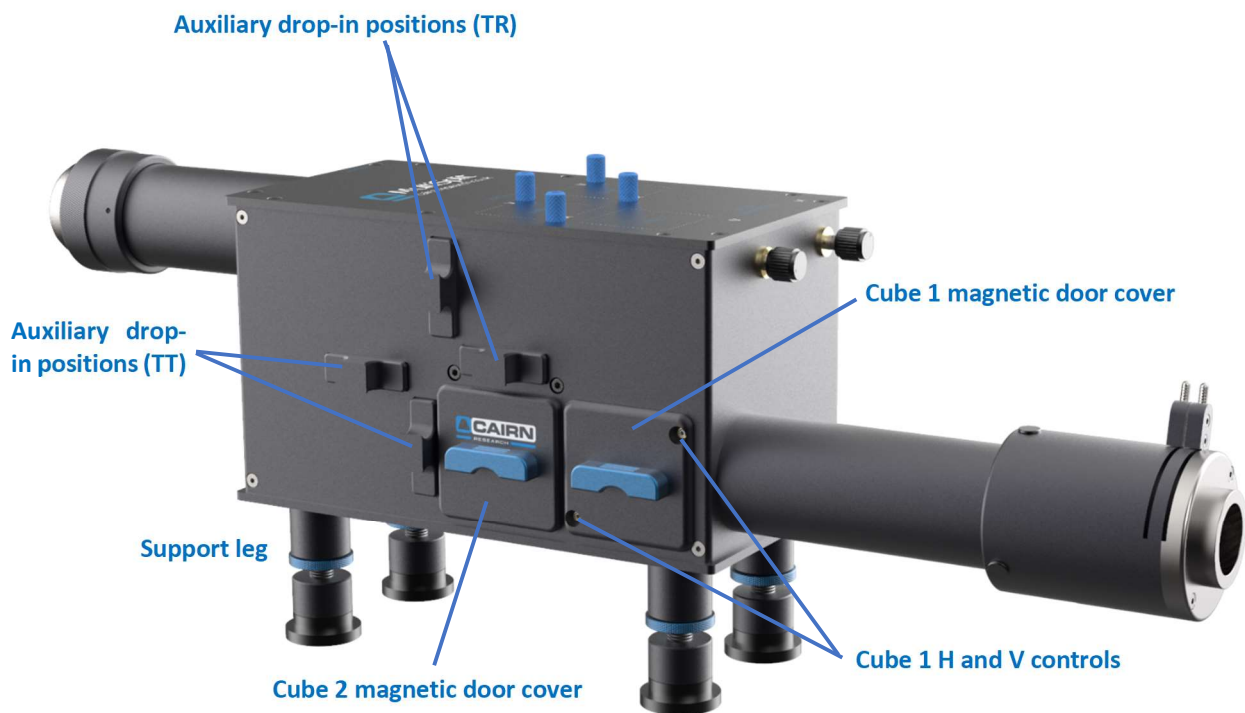

Figure 2: MultiSplit side panel 1
3. Using the 1.5mm Allen key provided, re-position this image using **Cube 1 H & V controls** (*Figure 2*) on the cube door. This mechanism tips and tilts the calibration cube (50% / 50% mirror), giving a smooth movement to reposition this image.